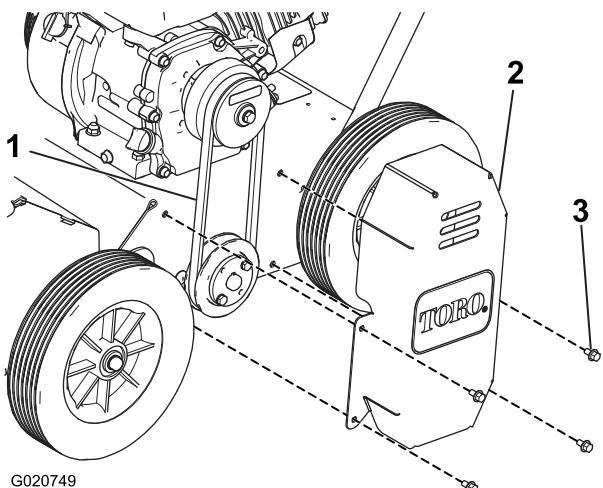

Figure 21
3. Check the tension of the belt (Figure 21).